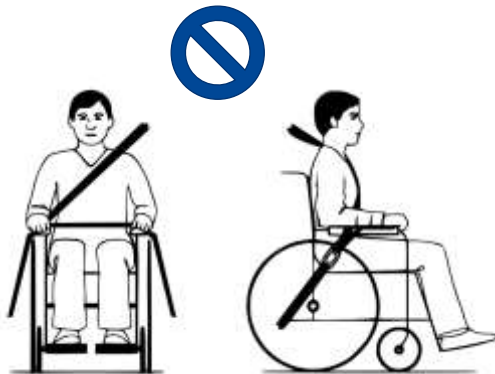

Figure 6 *Improper belt-restraint fit*
6. Make sure that belts are not twisted or held away from the body as shown in figure 6.